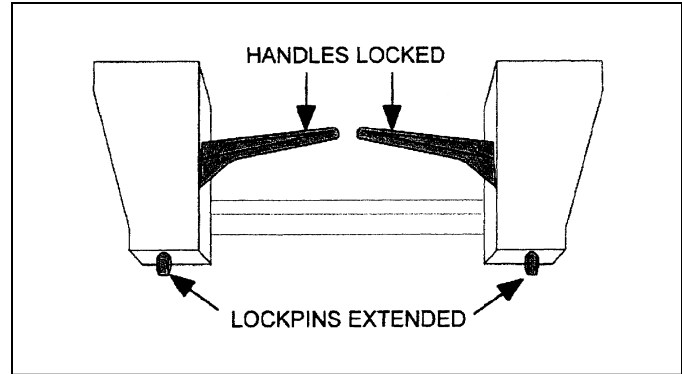

Figure 2 – Attachment Coupler Handles – Locked
8. Engage the latching mechanism to secure attachment to loader. The lockpins must be completely extended and secured into the retaining slots provided on the attachment. Figure 2.